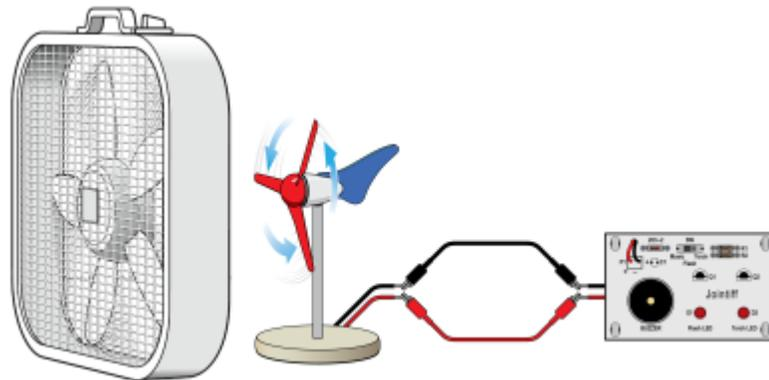

Figure 3
- a. Position the fan so the center of the fan is in line with the center of the hub of the turbine. The fan should be about 15 cm from the turbine (see Figure 3).